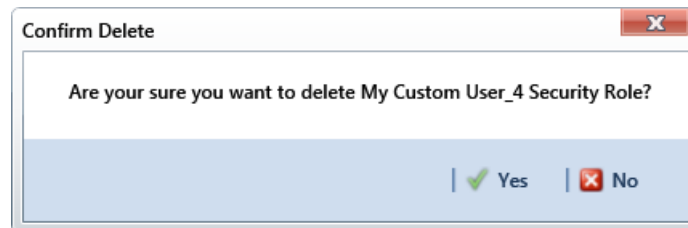

Figure 3-23. Confirm Delete
- 4 Click **✗ Delete**. When the *Confirm Delete* message displays, click **✓ Yes** to delete the custom security role and set users tied to this role to the PCS Axis installed role or **✗ No** to cancel the operation (Figure 3-23).